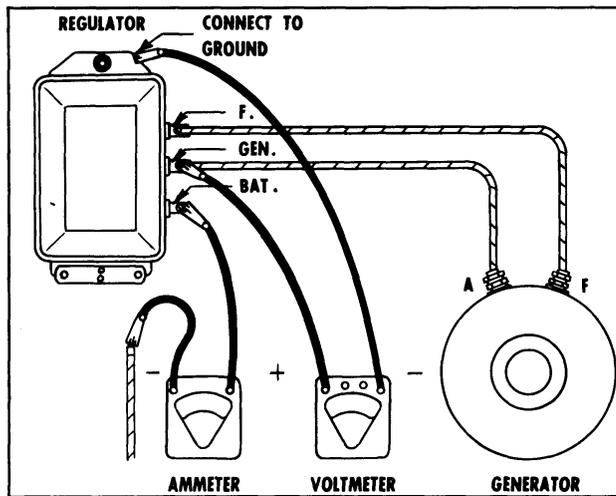

Fig. 13-11 Checking Closing Voltage of Cutout Relay
1. Connect a voltmeter between the regulator "GEN" terminal and ground. (See Fig. 13-11)